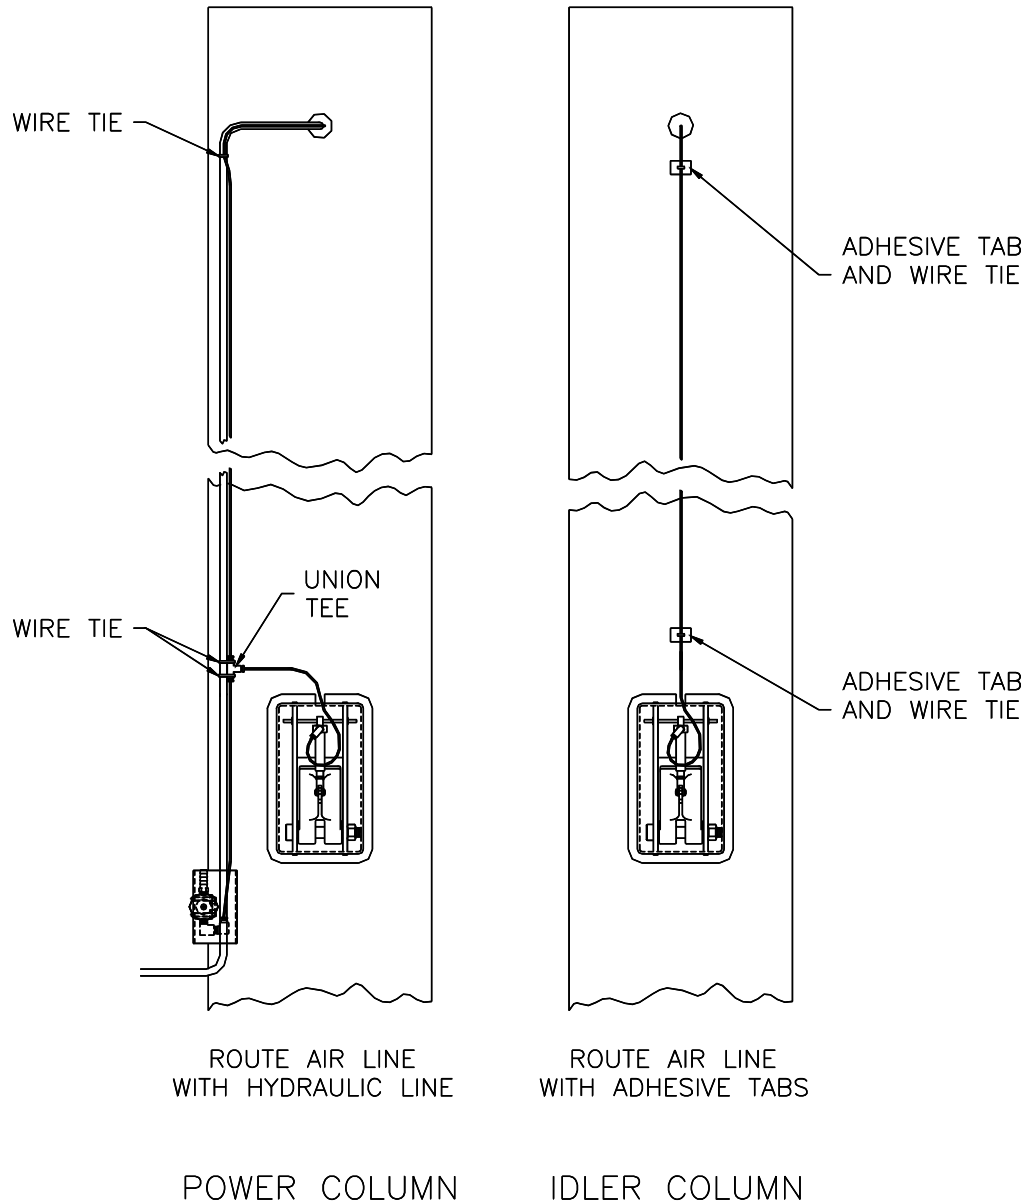

Figure 9
2. Be certain that the wiring in your building will handle the current required to operate this unit (Fig 9).
15. **BE CERTAIN ALL FITTINGS AND CONNECTIONS ARE TIGHT.** Fill the power unit with three (3) gallons of #10 weight hydraulic oil or Dexron III. **DO NOT USE OILS WITH DETERGENTS.**
16. Route the 1/8" air line (Fig. 9). Be certain not to kink or pinch the hose. Connect the button valve to a source of **clean, dry air** using the hose barb and clamp provided. Snap the covers onto the column.